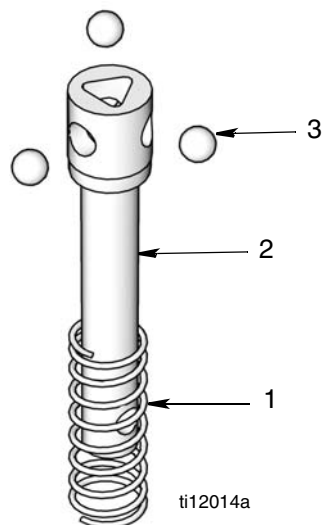

FIG. 42
1. Insert balls (3) in trip rod (2) (FIG. 42).
2. Slide spring (1) over trip rod (2) (FIG. 42).